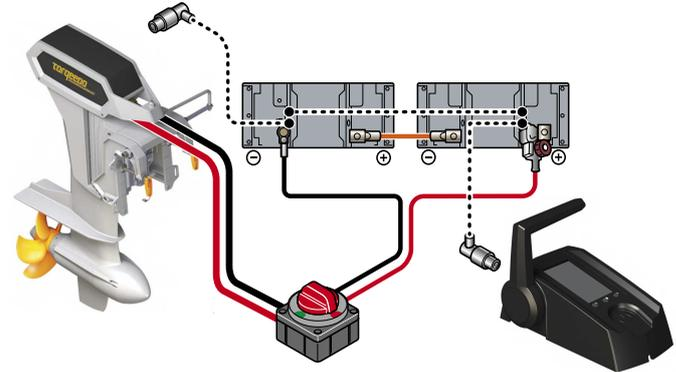

Fig. 53: Wiring diagram for 26-104
2. Connect the cable to the batteries, see "Fig. 53: Wiring diagram for 26-104".